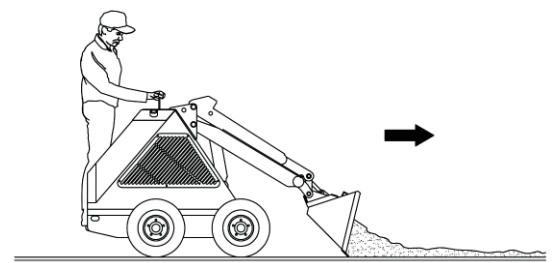

Fig. 15
1. To spread material on uneven ground, raise lift arms and tilt bucket forward while driving slowly forward, as shown in Figure 15.